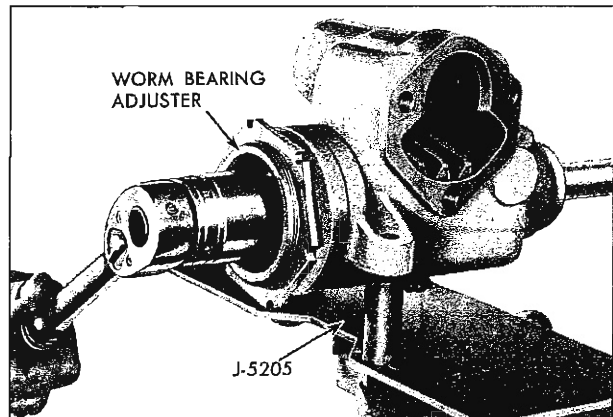

Fig. 9-26 Adjusting Worm Bearing Preload
b. If torque does not meet above specifications, loosen worm bearing adjuster lock nut (Fig. 9-26) and turn adjuster to bring torque within 5 to 9 lb. in. limits.